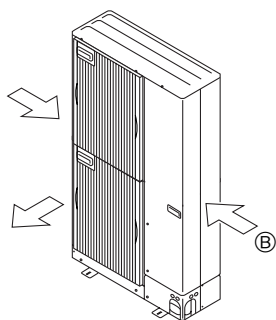

Fig. 2-16
- ② Position the unit so that the air outlet blows perpendicularly to the seasonal wind direction, if possible. (Fig. 2-16)